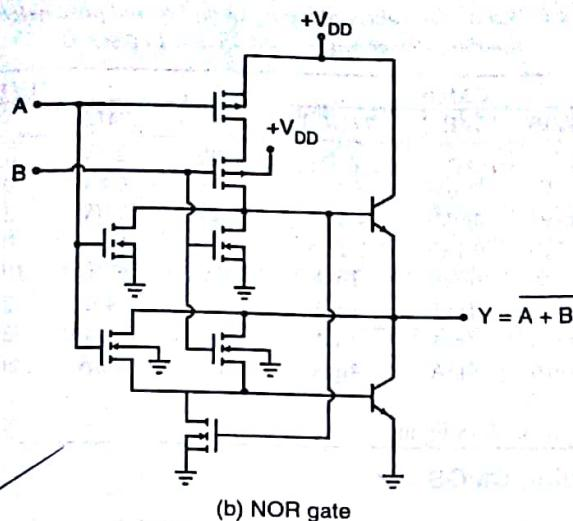

Fig. 4.31
**BiCMOS NAND and NOR gates** The transfer characteristics and switching speed of the basic inverter can be improved by providing paths for discharging the excess carriers from the bases of  $T_1$  and  $T_2$  with additional NMOS devices, resulting in each BJT OFF while the other is ON. The circuit of the conventional BiCMOS inverter is shown in Fig. 4.30. This circuit can be modified to implement BiCMOS NAND and NOR gates as shown in Fig. 4.31(a) and (b) respectively.